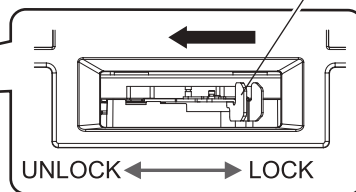

Fig. 4
**3) While holding the projection lens, pinch the lens lock lever and turn to the Unlock side. (Fig. 4)**